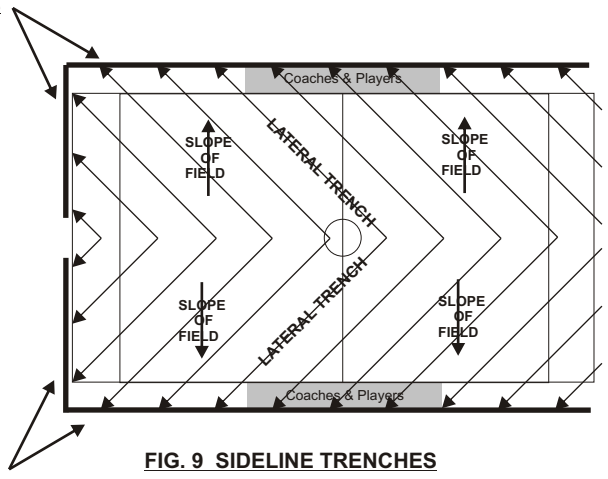

FIG. 9 SIDELINE TRENCHES
3. Place *Sideline Trenches* in such a way as to connect all Lateral Trenches on both sides of the field. (See Fig. 9)